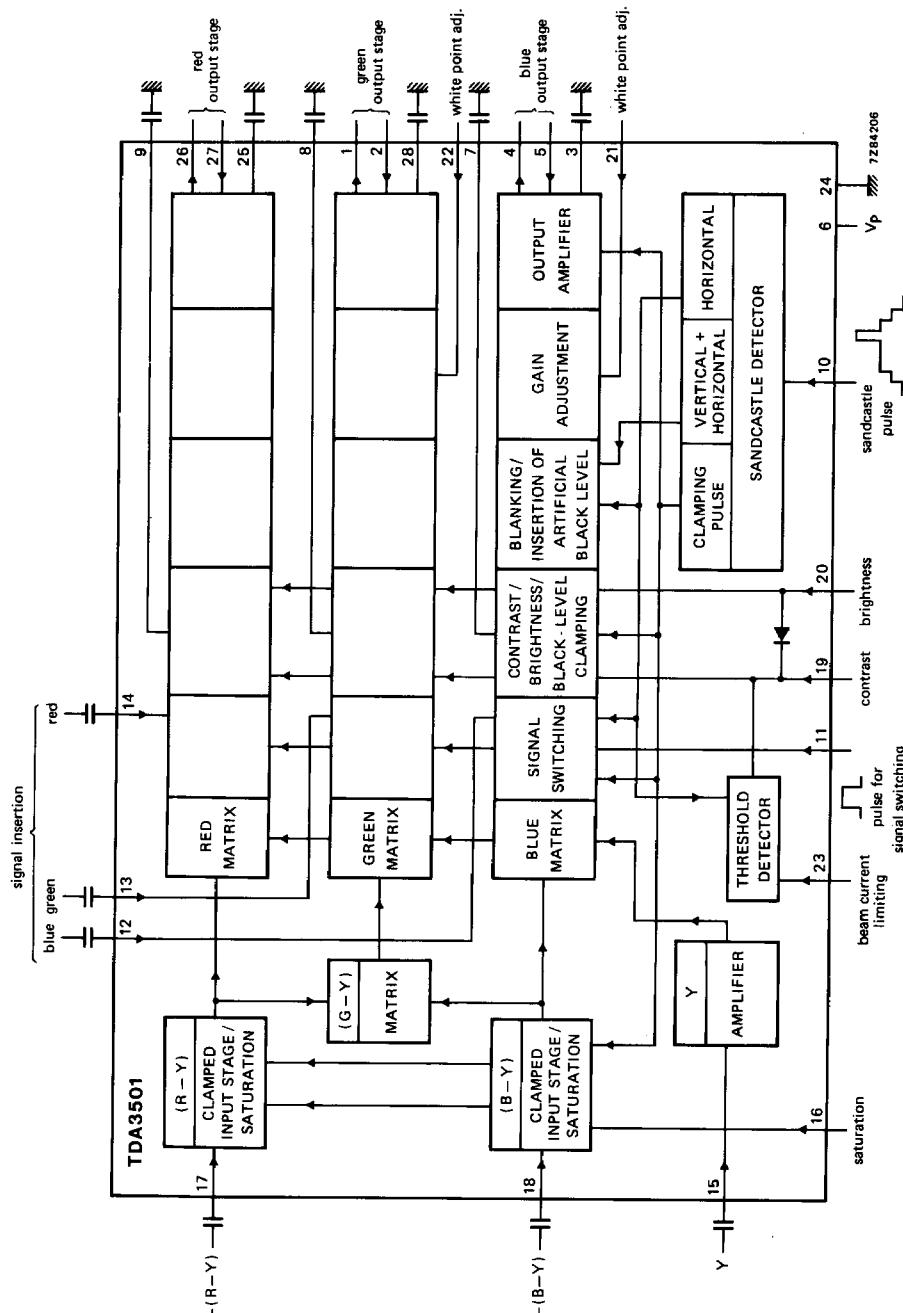

Fig. 1 Block diagram.
* During the clamping time (see sandcastle detector Fig. 1), the inserted RGB signals are clamped to the same black level as the internal RGB signals. For proper clamping, the internal resistance of the external signal sources should be < 200 Ω.